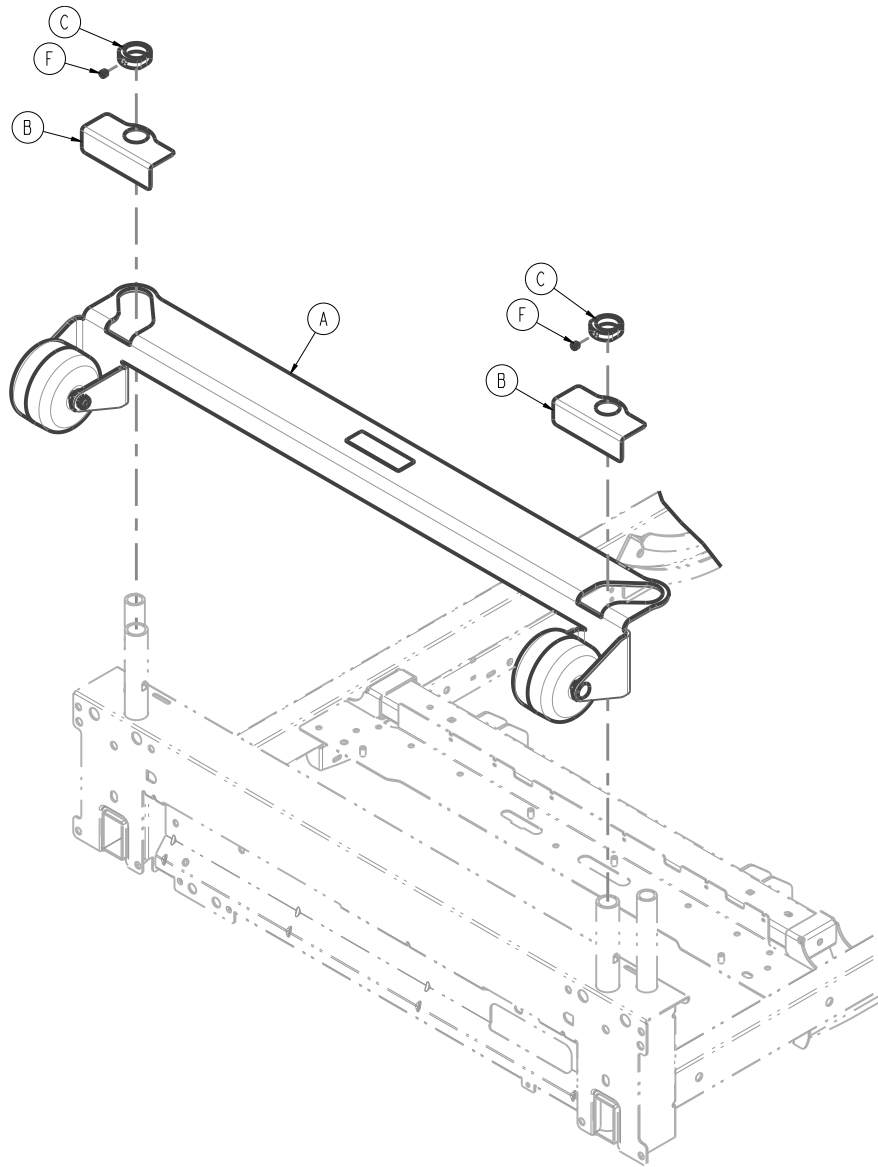

Figure 78 – Attaching the roller bumper
7. At the head end of the product, attach the roller bumper (A) to the bed IV post (Figure 78).
8. Slide the retaining bracket (B) over each side of the roller bumper (Figure 78).
9. Slide the lock collar (C) over each side of the roller bumper (Figure 78).
11. While you press down on the lock collar (C), use the 1/8" hex wrench to tighten the set screw (F) (Figure 78). If your product is equipped with the IV pole option, use the base of the IV pole to push down on the lock collar (C).